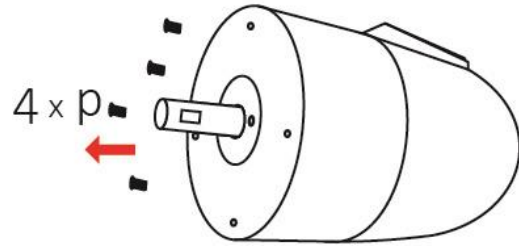

fig.10
2. Loosen the four screws (p) from the front side of the motor unit. (fig.10)